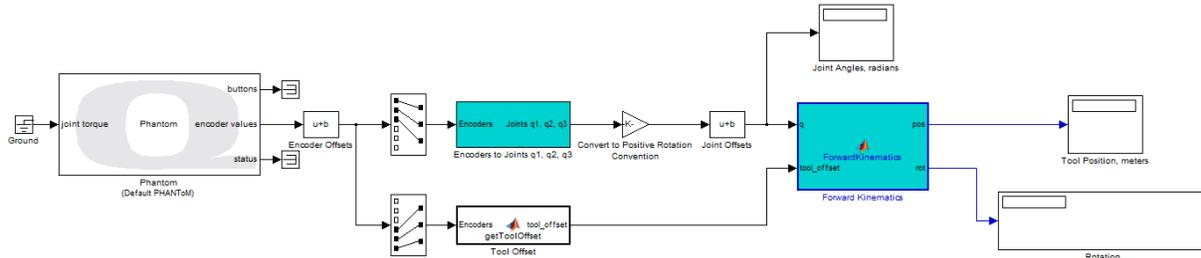

Figure 3.6: Forward kinematics model
- Attach the **Tool Offset** block to the $tool_offset$ input. Your complete model should resemble Figure 3.6.